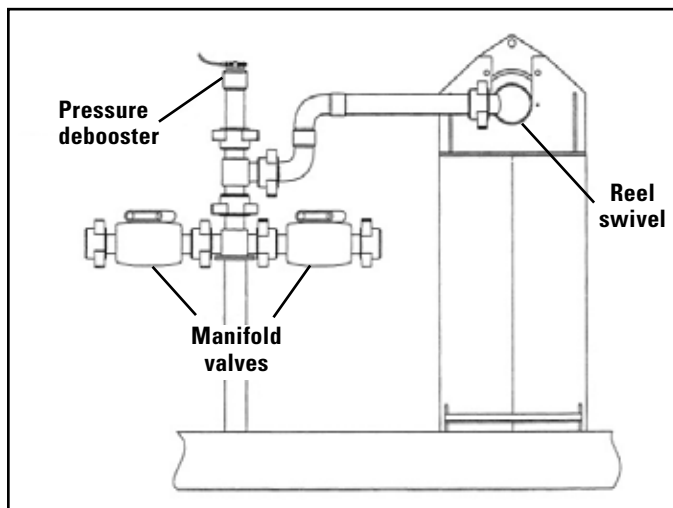

Figure 6-24. External Manifold
- The external manifold (see Fig. 6-24) connects the swivel to external pumps through a 2x2 Hamer valve. It also includes a 4:1 pressure deboster for the hydraulic circulation.